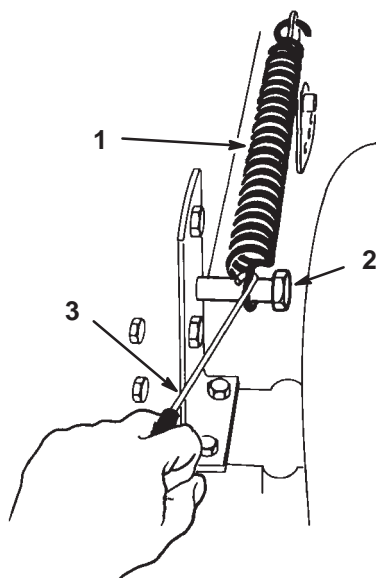

Figure 37
3. Remove the lift assist spring between the mower right side lift bracket and the retaining bolt (Fig. 37).
11. Move the height-of-cut lever into the D notch and hook the lift assist spring onto the retaining bolt for storage (Fig. 37).